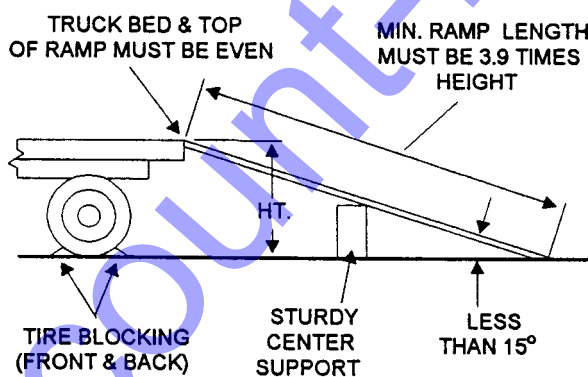

Fig. 26 - Ramps and Center Supporting Blocks
1. Use a pair of matching ramps that can support the weight of the paver. The ramp width must be at least 1-1/2 times the track width, and the ramp length must be at least four times the ramp height. It is best to use strong wood-covered steel ramps with center supporting blocks (Fig. 26).